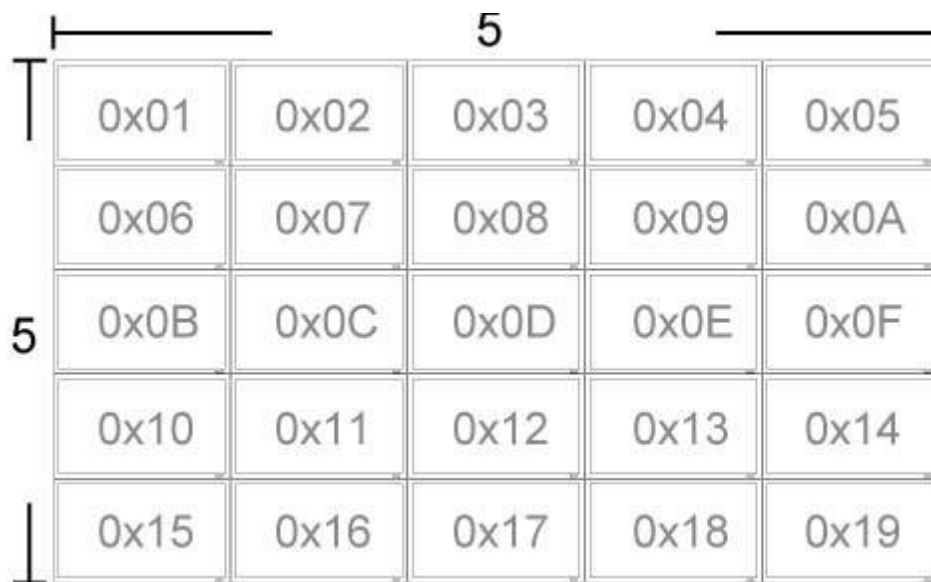

Figure 2: The hexadecimal Position value in a 5x5 (H Monitors x V Monitors) Tiling Wall.
*Example: See Figure 2 for the hexadecimal Position value in a 5x5 (H Monitors x V Monitors) Tiling Wall.*